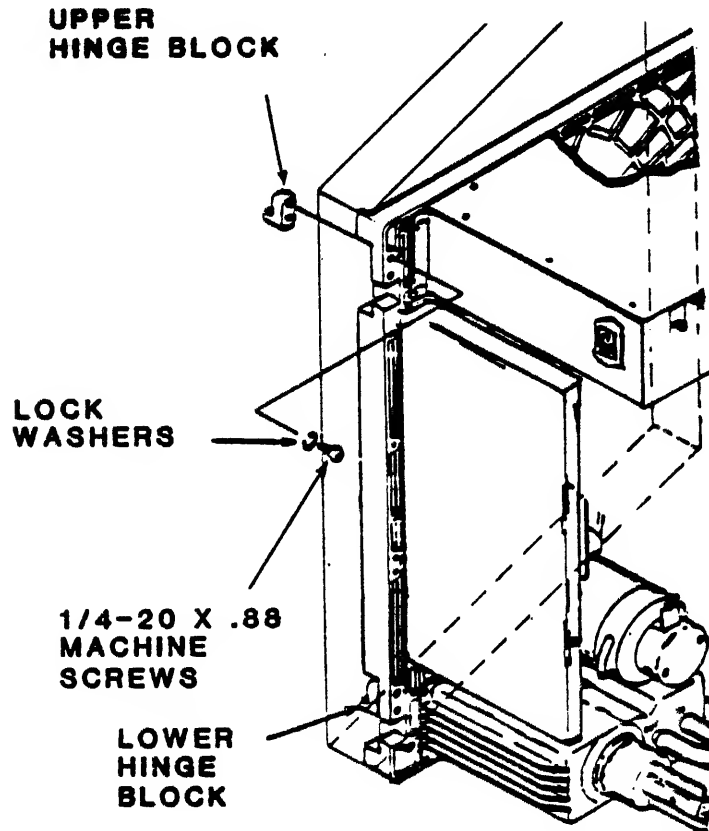

Figure 3-11. HINGE MOUNTING (TRANSPORT)
3. When shipping frame is removed, install two hinges with screws and lockwashers as shown in Figure 3-11.